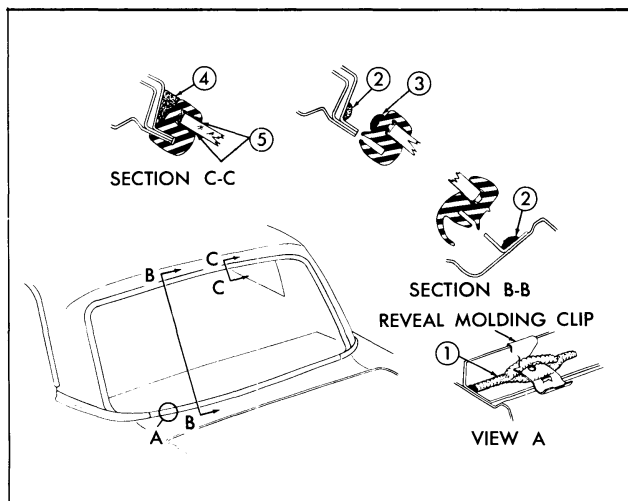

Fig. 5-3 Back Window Sealing
2. Check installation of reveal molding clips at pinchweld and retaining flanges and replace clips, where necessary. If replacing clips, apply medium-bodied sealer to opening rabbet prior to installing clips (see 1 in View A, Fig. 5-3).
3. Apply a continuous 3/16" diameter ribbon of medium-bodied sealer on wall of rabbet, completely around opening (see 2 in section B-B, Fig. 5-3).
5. Apply a continuous ribbon of medium-bodied sealer (approximately 1/2" wide by 1/4" thick) to base of rubber channel across top and down sides (see 3 in section B-B, Fig. 5-3).
8. Using a pressure-type applicator, apply sufficient medium-bodied sealer to completely fill any openings between rubber channel and body (see 4 in section C - C, Fig. 5-3).
9. Using a pressure-type applicator (pistol-type oiler) apply a weatherstrip adhesive (black) between rubber channel and glass on inside and outside of glass around entire perimeter (see 5 in section C-C, Fig. 5-3). Application of adhesive should be continuous with no skips.